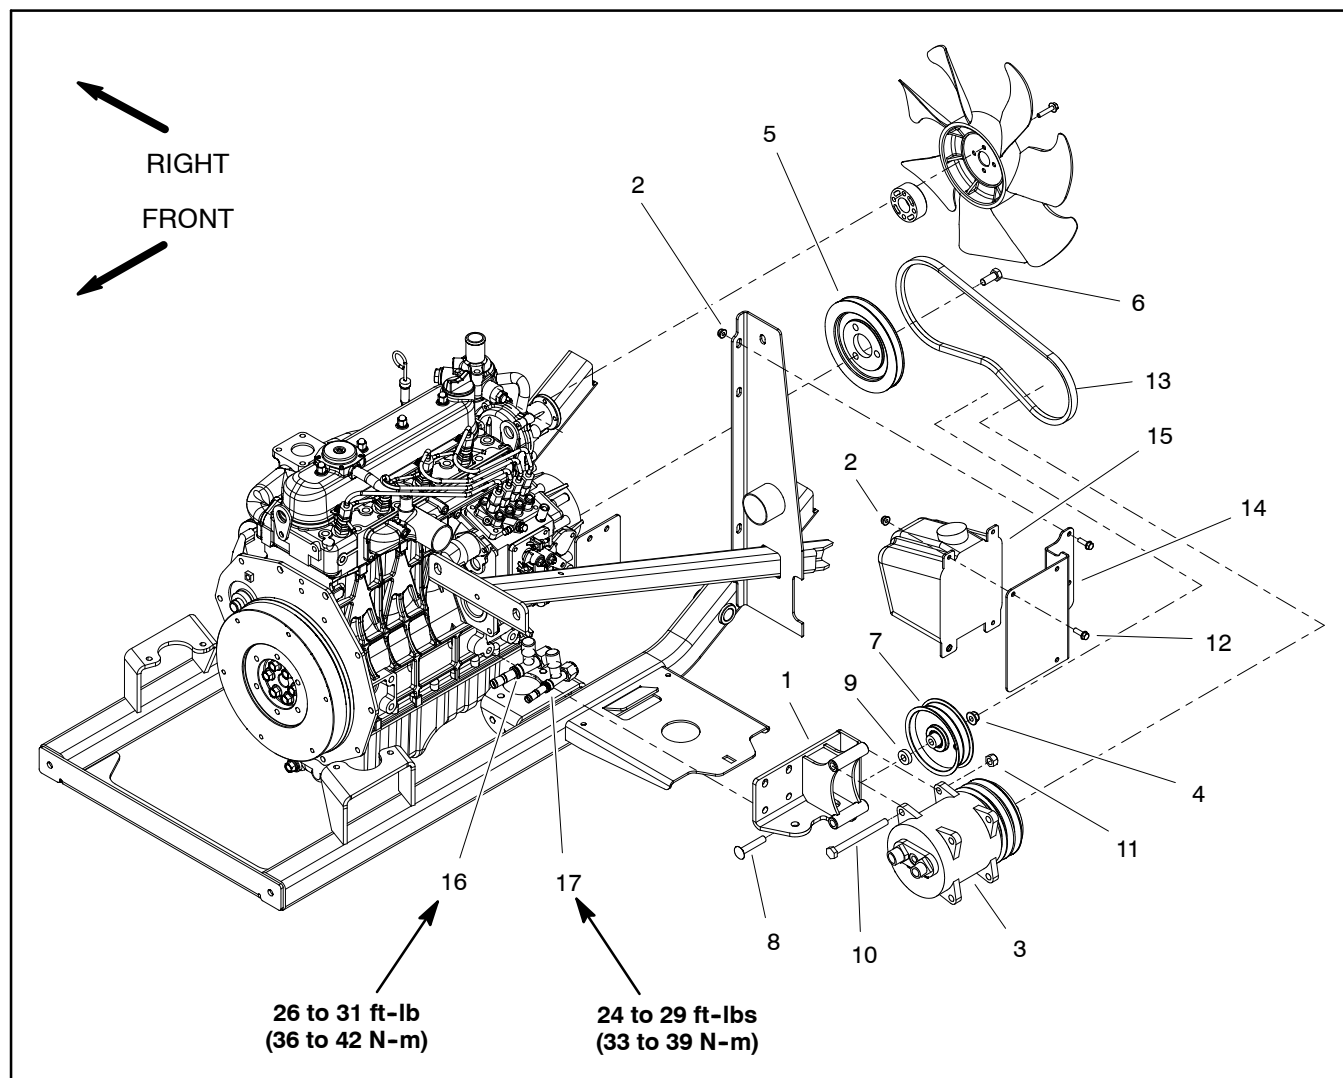

Figure 1
### Removal (Fig. 1)
### Installation (Fig. 1)
4. Manually rotate the compressor drive shaft at least ten (10) revolutions to make sure that no compressor oil is in the compressor cylinders.
7. Remove caps that were placed on hoses and fittings during the removal process. Using labels placed during removal, properly secure hoses to compressor. Torque hose fittings to values identified in Figure 1.